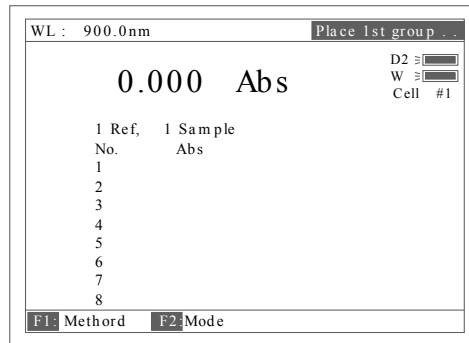
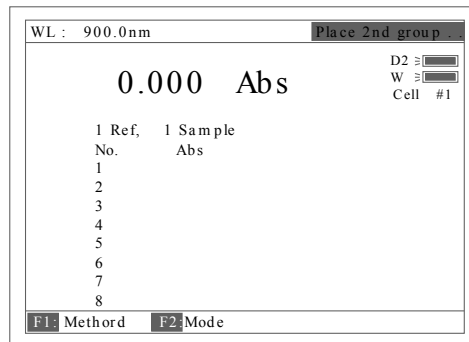

Fig 105
Fig 106
- Press **[START]**, the screen display as Fig 105, the "Place 1st group..." appear on the right of top line, Press **[0Abs/100%T]**, the 8 references are taken automatically and the screen change to Fig 106.